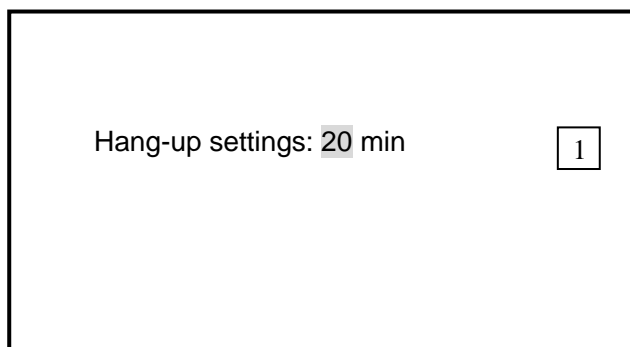

Fig. 3-4 Hang-up settings
**SELECT** can switch between the operation of changing the time by 1 or 10 minutes. Press **START** to save and quit, and press the key **CANCEL** to quit without saving, as shown in Fig. 3-4.